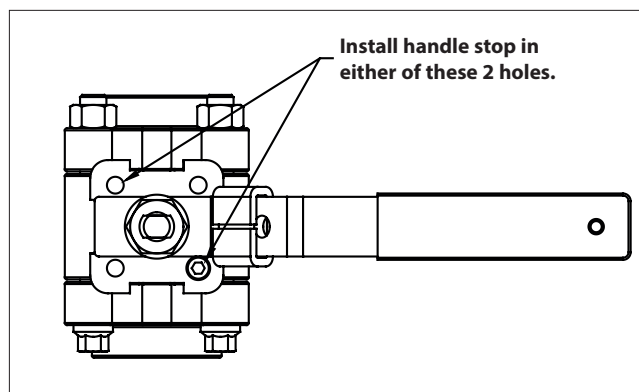

Figure 2.
9. Install the indicator stop on the top flange of the extension as shown (in **Figure 2**), with the new socket head cap screw, lockwasher and nut provided.
2. Install the indicator stop on the top flange of the extension as shown (in **Figure 2**), with the new socket head cap screw provided.